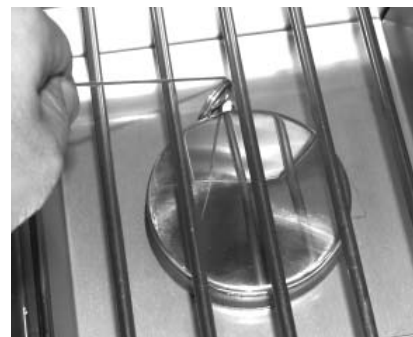

Fig. 21-2 - Manual lighting
2. Insert either a burning long-barrel butane lighter, a burning long-stem match, or a burning match held by a wire extension holder through the cooking grid opening to the burner (Fig. 21-2). Hold the flame against the edge of the burner.
4. If the burner does not light, **immediately depress the knob and turn the valve to OFF**. **WAIT FIVE (5) MINUTES** before repeating steps 2 through 4 of the **MANUAL LIGHTING** instructions.